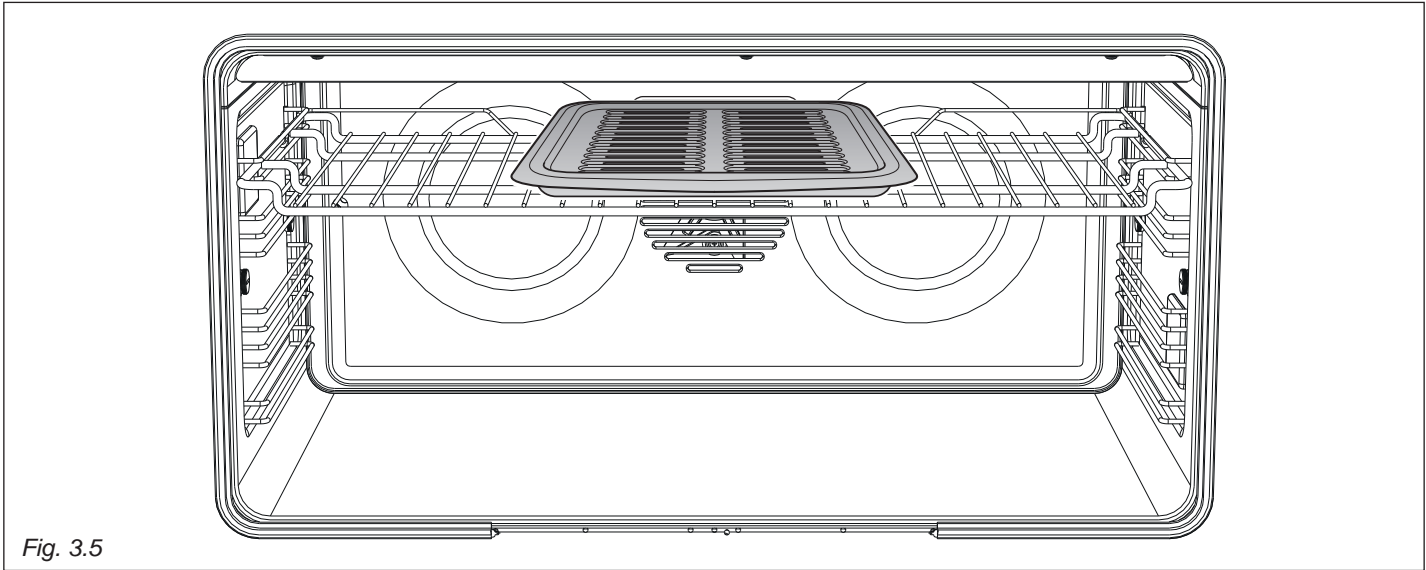
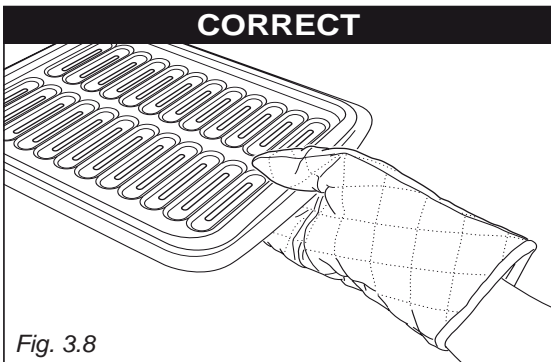

Fig. 3.5
Fig. 3.8
- Position the shelf on the first level from the top (fig. 3.5).
- Introduce the broiling pan in the oven (fig. 3.8). The broiling pan should be placed above the shelf and it should be centered with the broil burner (fig. 3.5).